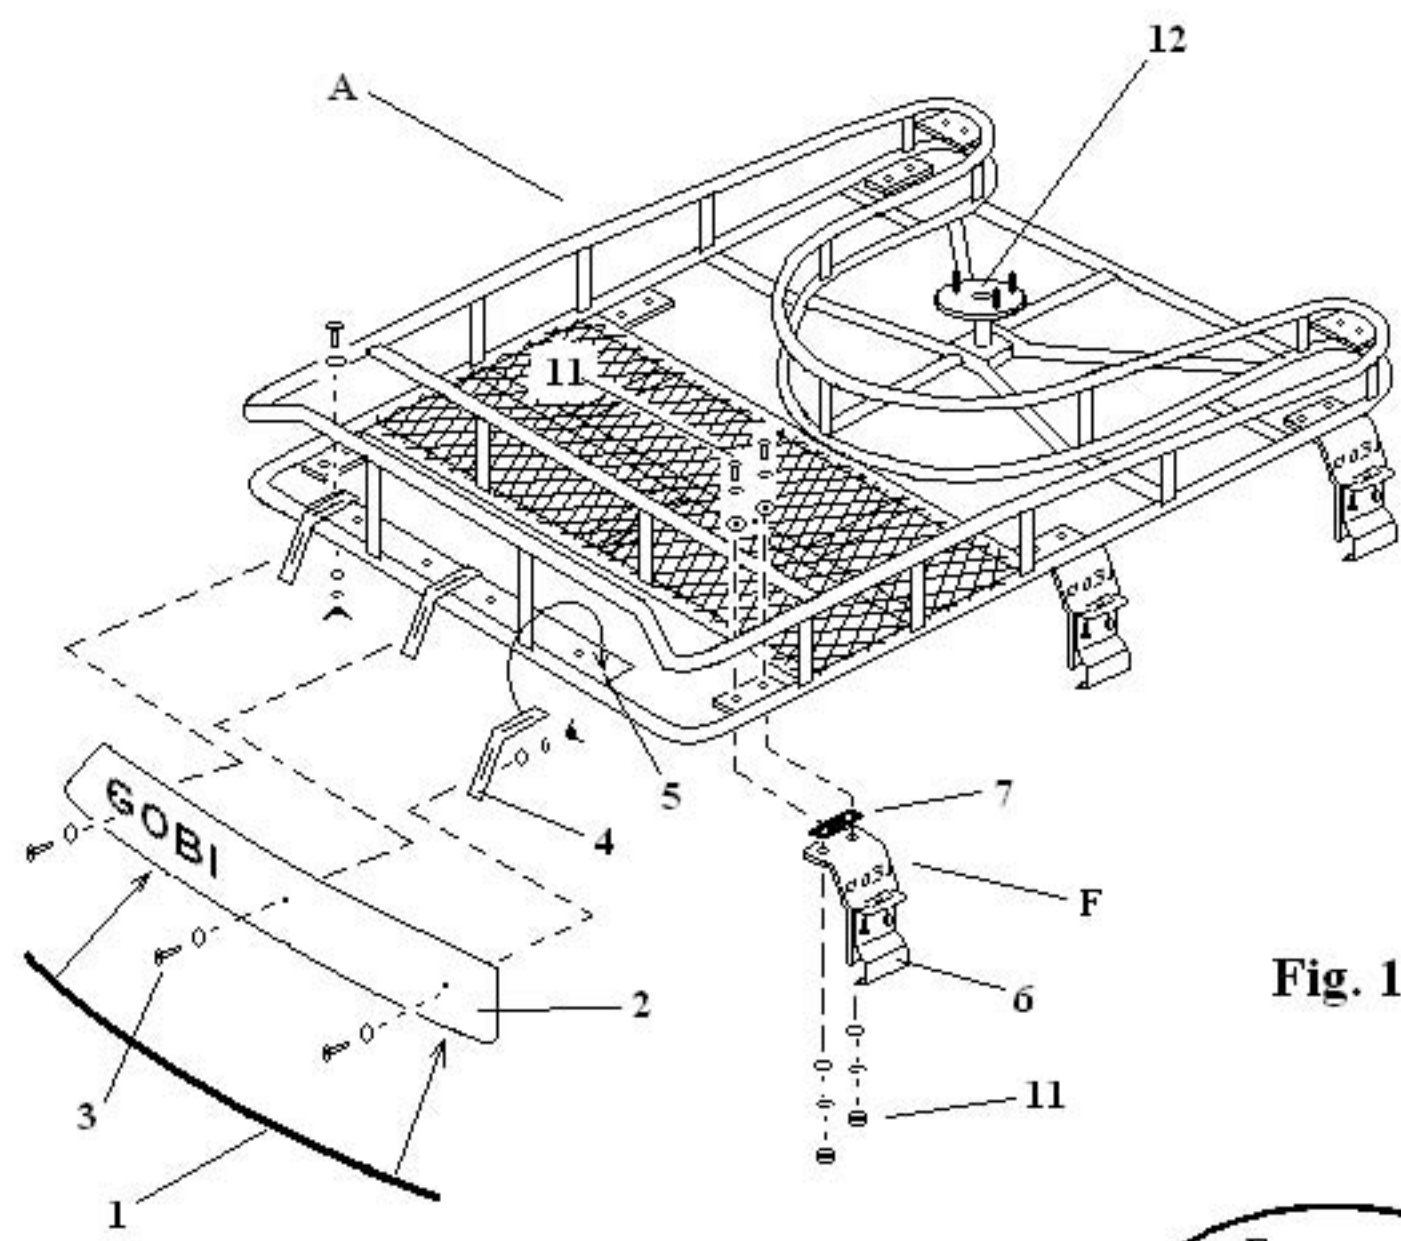
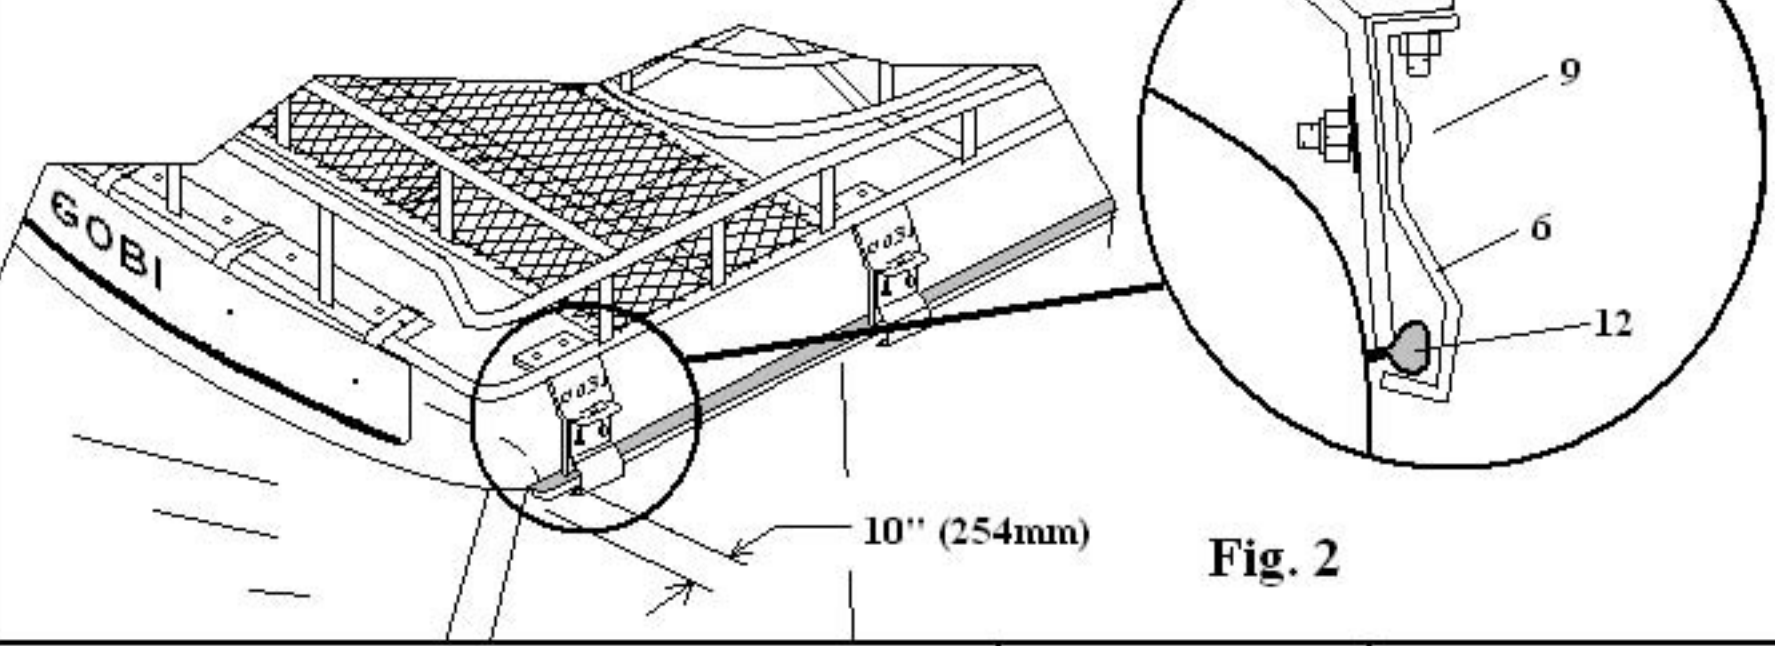

Fig. 1
Fig. 2
- 1- Plastic Bag labeled #1 remove contents and press rubber protective strip #1 onto bottom of fairing #2 as shown on page 6 Fig. 1.
- 2- Plastic Bag labeled #2 remove contents and place black button head screw #3 thru black washer and then thru fairing #2. Place fairing onto bracket #4 and attach black washer, lock washer and wing nut finger tighten only. Attach all 3 brackets as shown on page 6 Fig. 1 but do not attach fairing to rack at this time.
- 4- Plastic Bag labeled #3 remove contents and attach all 6 Gobi Support brackets "F" to roof rack "A" in the direction shown in the illustration Fig. 1 page 6 be sure to place rubber pad #7 between Gobi Support Bracket "F" and roof rack welded in brackets as shown in fig. 1 page 6. Finger tighten bolts and nuts only at this time.
- 5- Place the complete Gobi roof rack with attached brackets "F" on top of your vehicles roof be sure to place all 6 Gobi brackets "F" into vehicle roof gutter. (Make sure the tire support hub nut found under your Gobi roof rack directly below #12 Fig. 1 page 6 is not in contact with your vehicle original roof rack cross bars). If contact is made slide your factory cross bars in a position away from the tire hub support nut but maintain the factory cross bar within close proximity to the tire hub support nut. Once all 6 Gobi brackets are seated into vehicle gutter slide rack either towards the front or rear of the vehicle so that a distance of approximately 10 inches (254mm) is measured between the front of the first Gobi bracket "F" and the forward beginning of the roof rack gutter as shown in Fig. 2 page 6. If by sliding your Gobi roof rack towards the front or rear of your vehicle causes the Gobi racks tire hub support nut to make contact with the factory cross bars reposition your factory cross bars to prevent contact once again.
- 6- After the Gobi roof rack has been positioned properly onto the vehicles roof and all Gobi support brackets "F" are seated into the vehicles roof gutter be sure that each Gobi support bracket clamp #6 as shown in Fig. 2 page 6 has been positioned under roof gutter #12 also shown in Fig. 2 page 6. Snug down but remove all play from carriage bolts #9 of clamp #6 while still maintaining that clamp #6 is under roof gutter #12 Fig. 2 page 6. After all carriage bolts have been snugged down, tighten down all support bracket clamp bolts #9a in Fig. 2 page 6 so that clamp #6 has been tightened securely to roof gutter #12 Fig. 2 page 6. Do not over tighten clamp as you may damage the vehicles roof gutter. Once all clamp screws #9a have been tightened go back and completely tighten and secure carriage bolts #9.
- 7- Completely tighten all bolts and nuts #11 to securely anchor roof rack "A" to Gobi support brackets "F" as shown in Fig. 1 page 6.